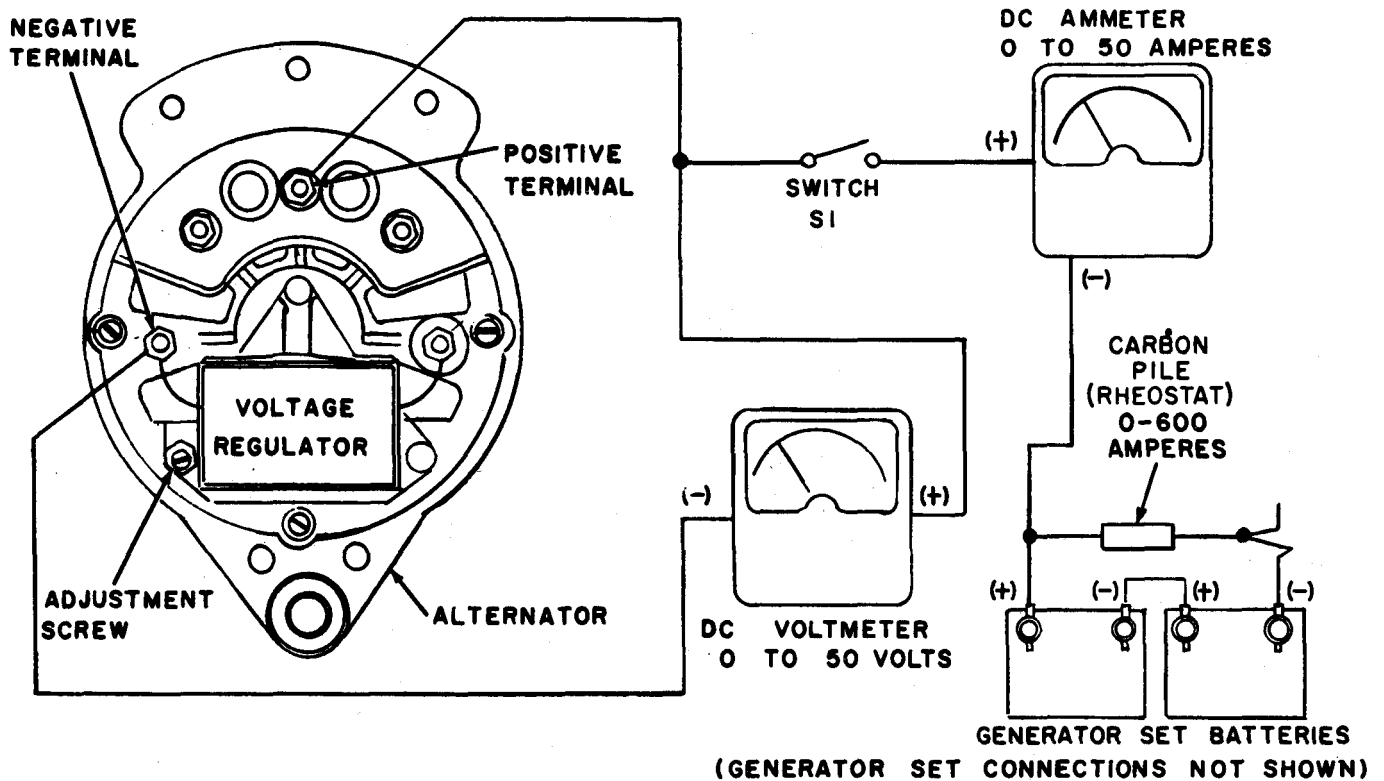

Figure 3-28. Battery charging alternator, test and adjustment
2. Connect test equipment to alternator as illustrated in figure 3-28. Make sure switch S1 is open.